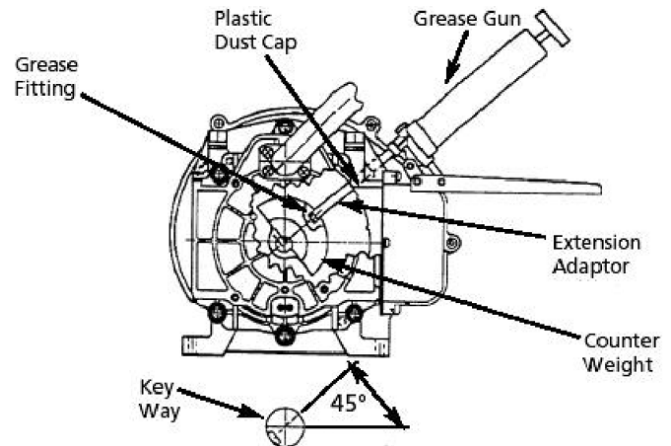

Figure 12. Greasing Scroll Compressor Bearings.
- Rotate the compressor pulley until the grease fitting is visible through the dust cap hole (see Figure 12). This will allow re-greasing of the main bearings.